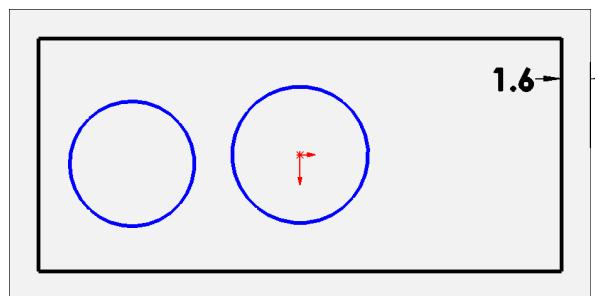

Fig. 39
Step 5. Click **Circle**  (S) on the Sketch toolbar.
Step 6. Sketch two circles with one at Origin , Fig. 39.